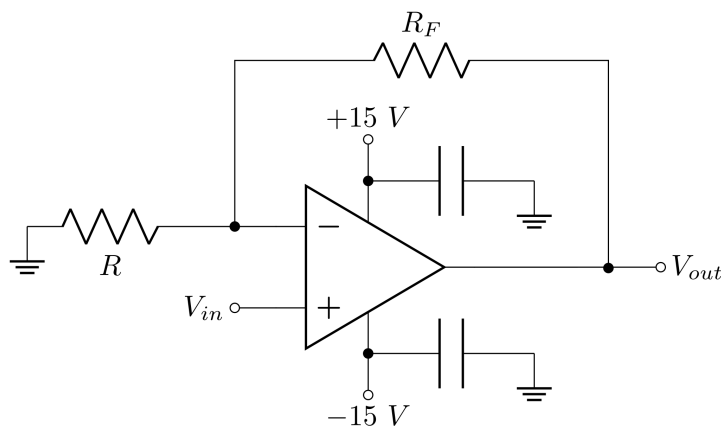

Figure 9: Non-inverting amplifier
1. Change the negative feedback loop in your circuit to the one shown in Figure 9, with $R_F = 10\text{ k}\Omega$ and $R = 100\text{ }\Omega$. Measure R and R_F with the DMM before inserting them into the circuit board. Predict G_0 and f_B from these measured values and the op-amps value of f_T from the data sheet. (You should be able to review your lab-prep work here too!)